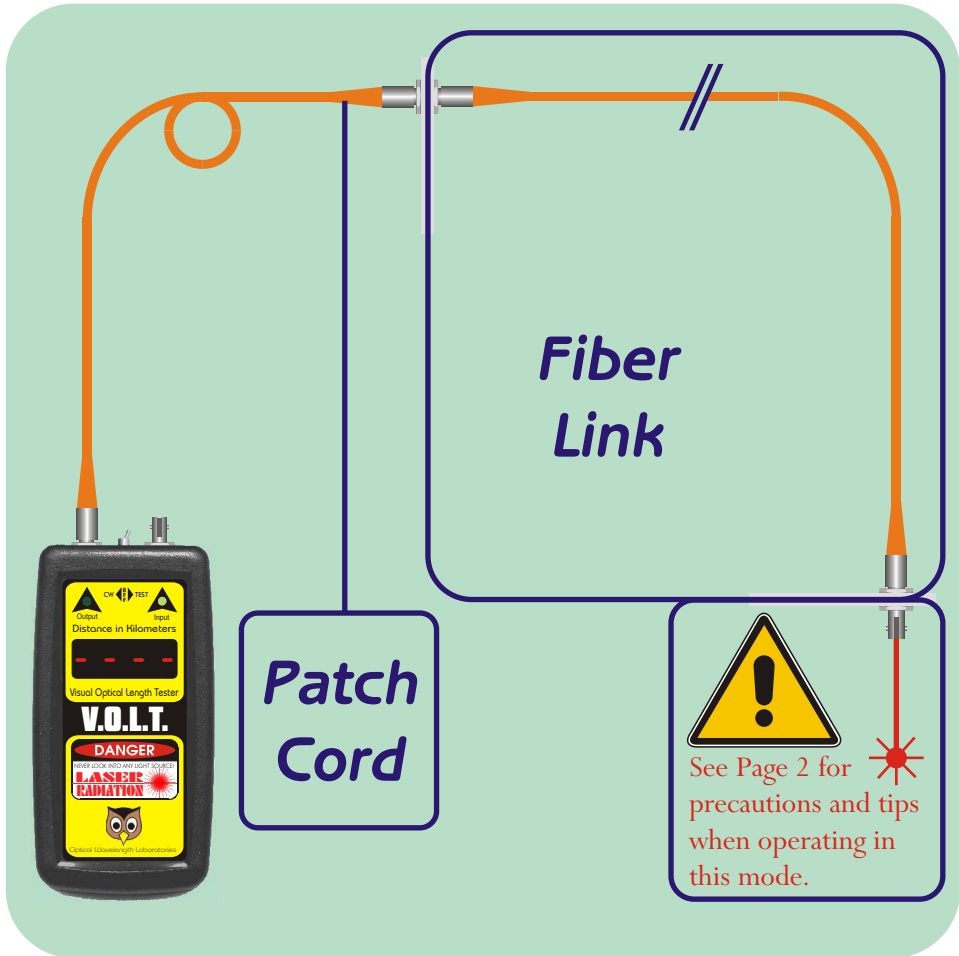

Figure 2 - Visual Fiber Identification Configuration
Visual Fiber Identification (Figure 2 - Visual Fiber Identification Configuration - Page 5)
- (1) Connect the VOLT to the fiber you are testing via a patch cord as shown in Figure 2.
- (2) Power ON the VOLT into fiber identification mode by flipping the switch to the left. This mode emits a flashing beam of high-intensity red light into the
- (3) Identify the fiber by looking for the flashing red light emitting from the connector.